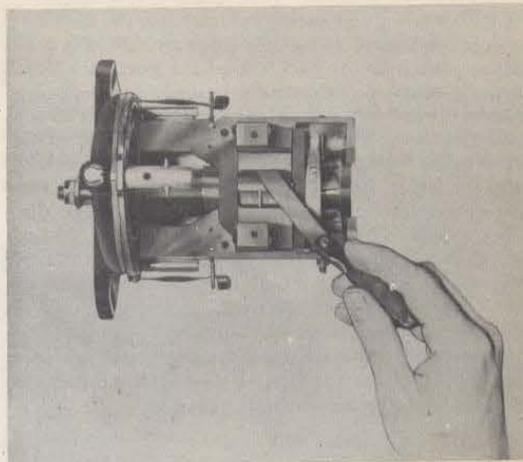

Figure 14—Checking Clearance Between the Rotating
(5) Make sure the rotating magnet turns freely and does not bind at any place. Check the clearance between each pole piece and the pole shoes of the housing. The clearance must not be less than .0015 inch for any pole piece of the magnet. (See figure 14.)